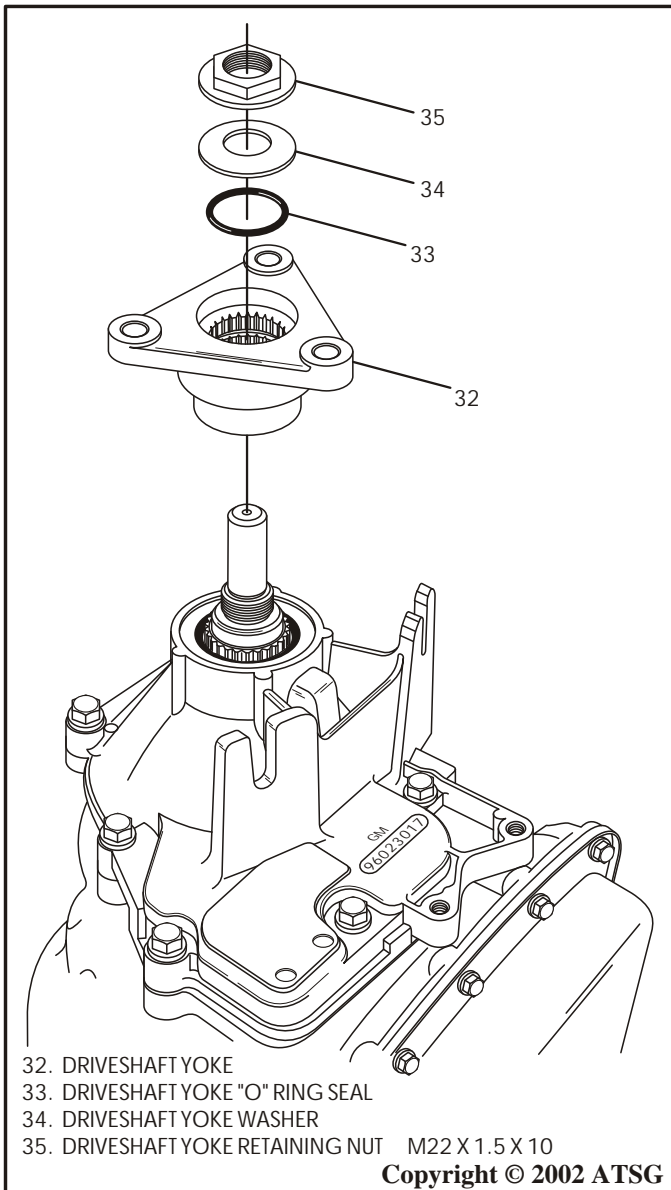

Figure 211
17. Install the transmission yoke onto the output shaft, as shown in Figure 211.
18. Install the yoke washer and screw the nut onto output shaft, as shown in Figure 211.
20. Torque the drive shaft yoke flange nut down to 57 Nm (42 ft.lb.) (See Figure 211).